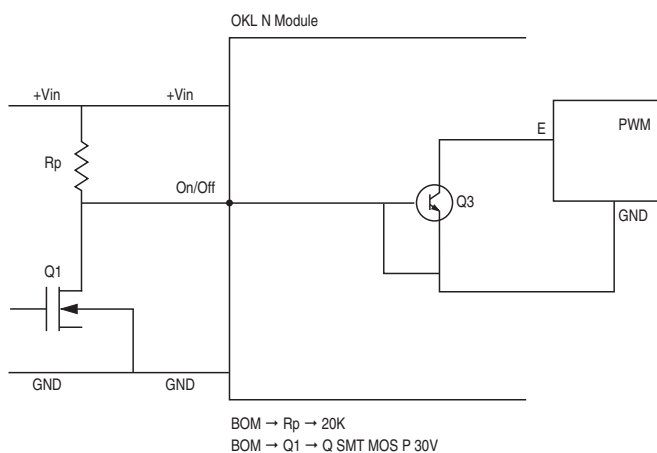

Figure 7. On/Off Circuit Control for Using Negative On/Off Logic
**Negative**—Units are enabled when the ON/Off is open or brought to within a low voltage (see specifications) with respect to –Vin. The unit is off when the ON/Off is pulled high with respect to –Vin (see specifications). The On/Off circuitry is shown in figure 7. The On/Off pin should be pulled high with an external pull-up resistor (20K ohms). When Q1 is in the off state, the On/Off pin is pulled high, transistor Q3 is turn on and the unit is off. To turn on the unit, Q1 is turn on, pulling the On/Off pin low and turning Q3 off resulting on the unit being on.